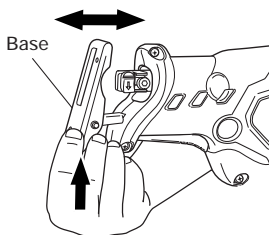

Fig. 12
- (2) Push up the base tip and jog the base back and forth. (Fig. 12)